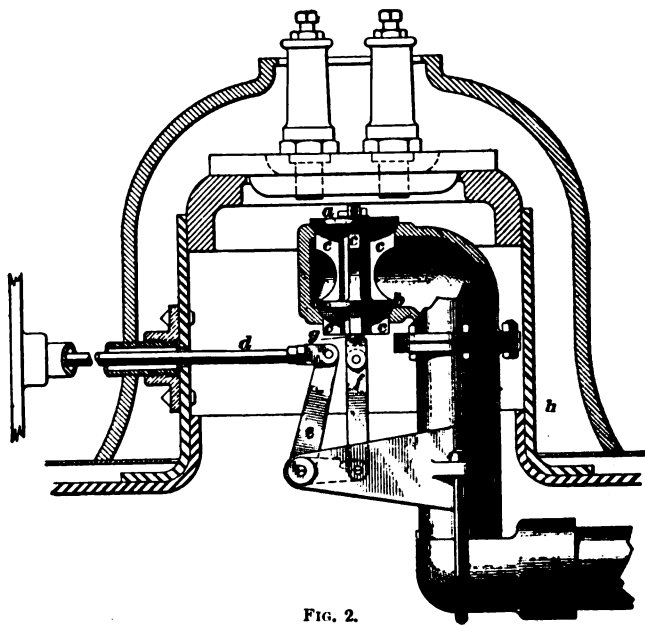
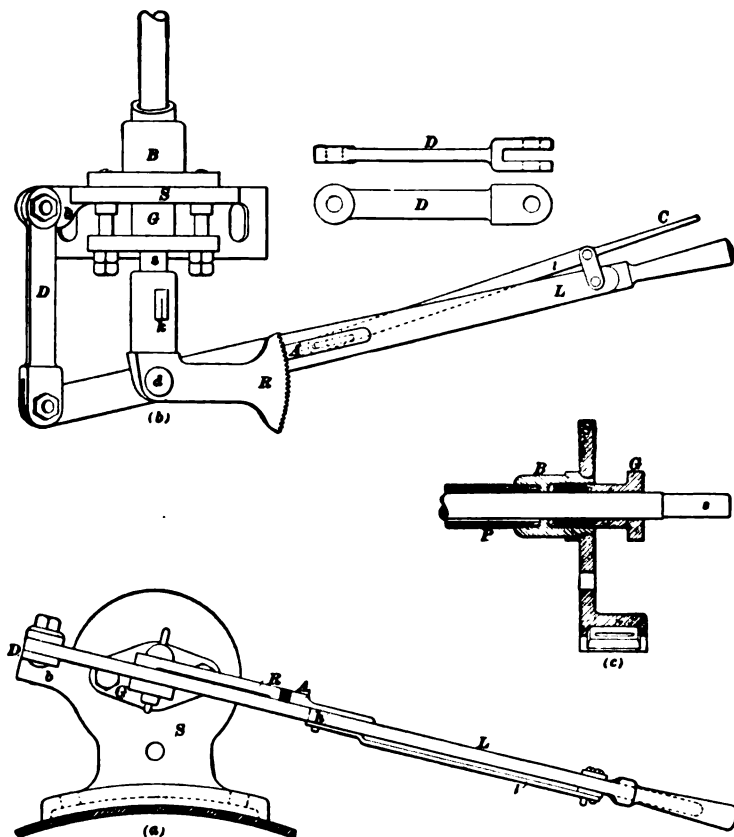

FIG. 2.
FIG. 5.
2. The object of a steam dome (shown at *h*, Fig. 2) is to provide a space that is elevated considerably above the level of the water in the boiler, from which space dry steam can be drawn for use in the cylinders, etc. Besides this, the dome adds a small amount of steam space to the boiler, and forms a convenient stand for the safety valves, whistle, etc.
**4. Double-Poppet Valve.**—The form of throttle valve generally used is very similar to that illustrated in Fig. 2, which, as will be seen, is in the form of a **double-poppet valve**. The valve consists of the two disks *a, b* of unequal
Fig. 5 shows a form of throttle lever that is suitable for engines in which the throttle stem passes through the side of the dome. View (*a*) represents the throttle lever as seen from the back end of the boiler. It shows how the lever is supported by the stand *S*, which rests on, and is securely fastened to, the top of the boiler. View (*b*) is a plan of the throttle lever, while view (*c*) is a sectional view of the stuffingbox *B* in the stand *S*. It will be observed that, as usual, one end of the stuffingbox has been bored out to receive the packing and the gland *G*. The other end is bored out and tapped, and a wrought-iron pipe *P* screwed into it. This pipe is long enough to reach from the stand *S* to the dome, and it has a brass flange screwed on to its end, which is riveted to the outside of the dome, as in Fig. 2. The bore of the pipe *P*